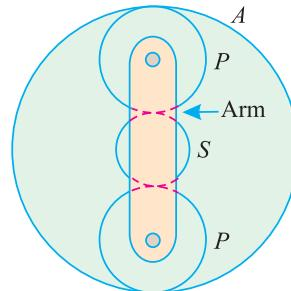

Fig. 34.15.
**Example 34.8.** An epicyclic gear train as shown in Fig. 34.15, has a sun wheel  $S$  of 30 teeth and two planet wheels  $P, P$  of 50 teeth. The planet wheels mesh with the internal teeth of a fixed annulus  $A$ . The driving shaft carrying the sun wheel, transmits 4 kW at 300 r.p.m. The driven shaft is connected to an arm, which carries the planet wheels.
Let  $d_A$ ,  $d_P$  and  $d_S$  be the pitch circle diameters of the wheels  $A$ ,  $P$  and  $S$  respectively. From the geometry of Fig. 34.15, we find that
- In an epicyclic gear train (as shown in Fig. 34.15) the arm is fixed to the shaft. The sun wheel S having 100 teeth rotates freely on the shaft and the wheel A with 150 teeth is separately driven. If the arm runs at 200 r.p.m. and the wheel A at 100 r.p.m. in the direction, find